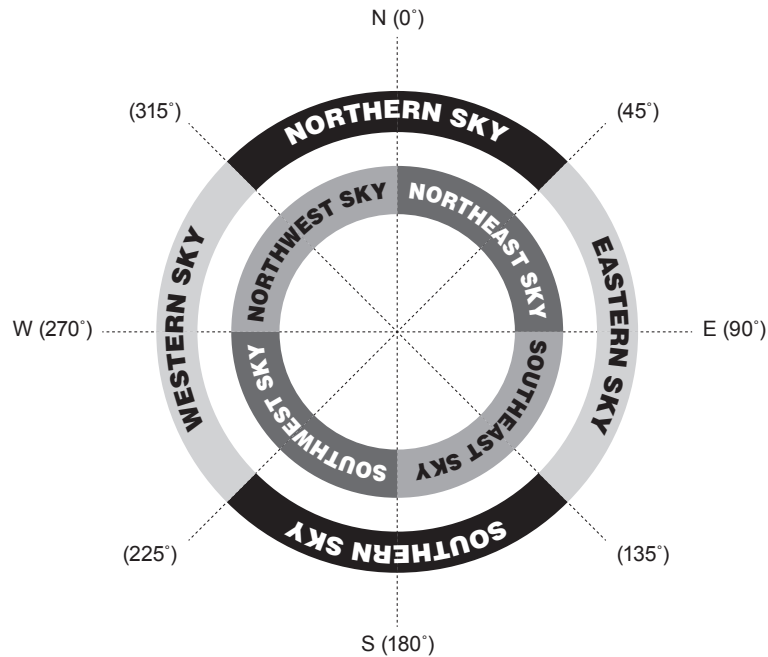

Fig. 3.4a
2. The hand control displays "**Select Region**". Use the scroll keys to pick one of the eight regions shown in Fig 3.4a, which matches the horizontal region of the brightest stars. Press **ENTER** to confirm the selection and proceed to the next step.